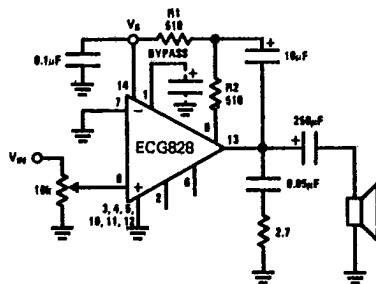
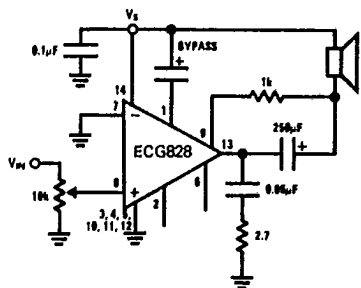

FIGURE 1. Load Returned to Ground (Amplifier with Gain = 20)
FIGURE 2. Load Returned to V_S
Electrical Characteristics (T_A = +25°C, V_S = 12 unless otherwise specified, Figure 1)
2. If load and bypass capacitor are returned to V_S (Figure 2), rather than ground (Figure 1), PSRR is typically 30 dB.
For reduced component count the load can replace $R1$. The value of $(R1 + R2)$ is the same, so $R2$ is increased. Now C_B is both the coupling and the bootstrapping capacitor (see Figure 2).